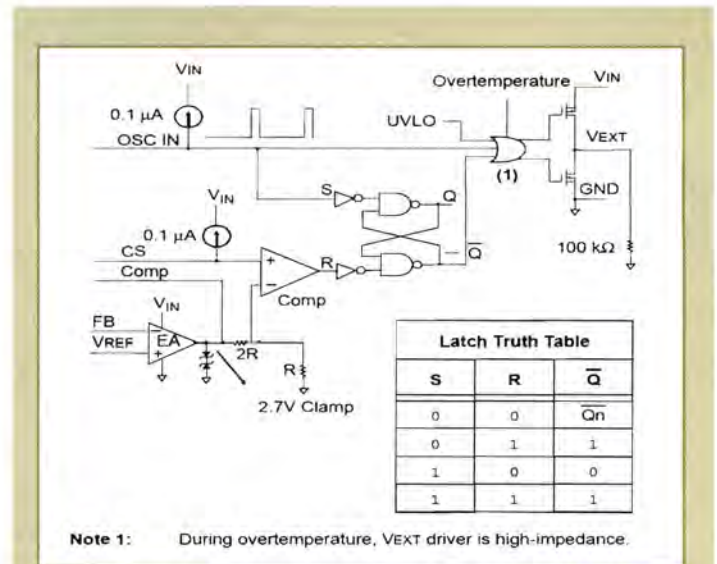

Figure 4: MCP1630 high-speed PWM
The block diagram for the MCP1630 high-speed PWM driver is shown in Figure 4. One of the features of the MCP1630 is the ability to perform current limiting. As shown in the bottom left corner of the diagram, the output of the Error Amplifier (EA) is limited by a 2.7V clamp. Therefore, regardless of the actual error, the input to the negative terminal of the comparator (labeled Comp) is limited to  $2.7V \div 3$  or 0.9V.